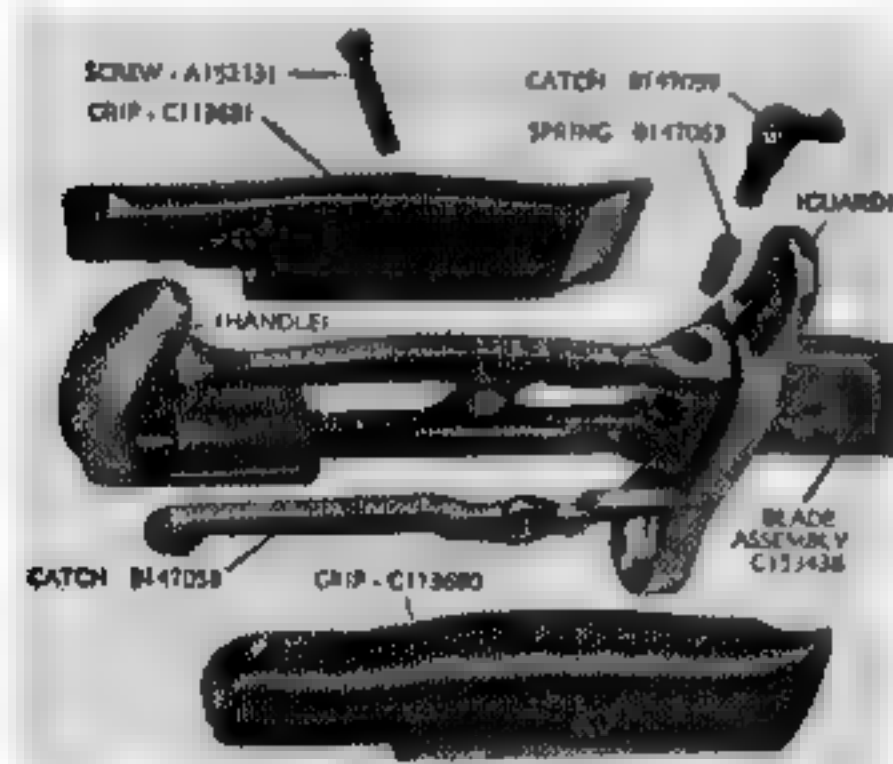

Fig. 163. M1 bayonet disassembled.
93. Bayonets should be thoroughly inspected for burs, broken or worn parts, and functioning. Fig. 163 shows the M1 bayonet disassembled. The M5 and M5-1 bayonets differ internally from the M1, but the following same points should be checked on all.